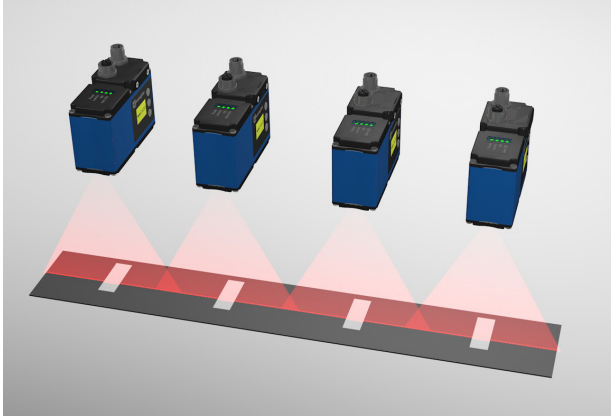

Fig. 45: Measuring setup with perforated plate for calibration
- A calibration object with gaps is located underneath the sensors, and the number of gaps must correspond to the number of utilized sensors (see Fig. 45).